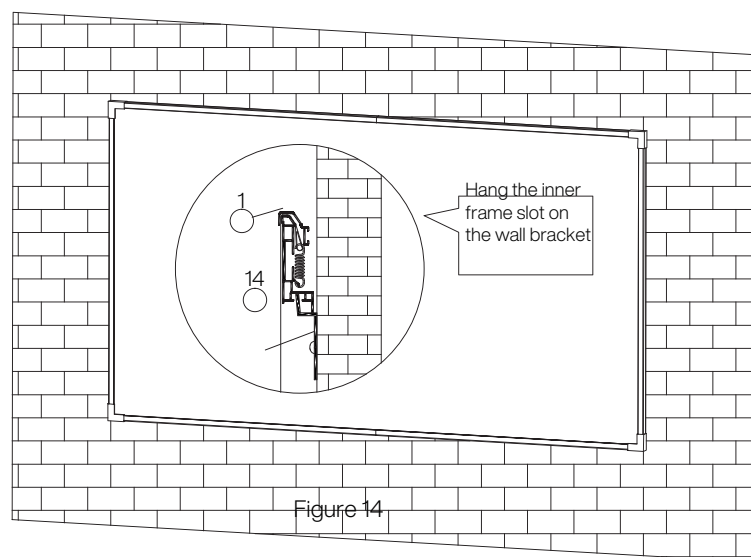

Figure 14
6.3 Hang the assembled screen on the wall (operated by two persons) (Figure 14)